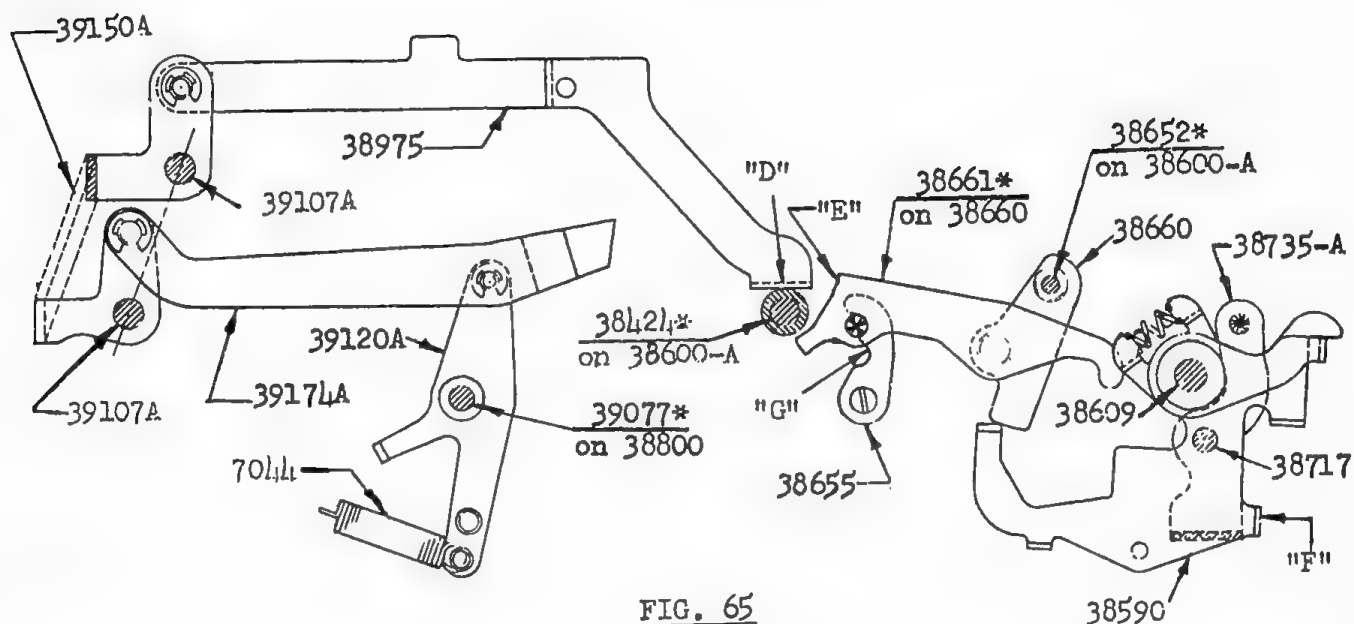

FIG. 65
B. (Fig. 65). The front end of 39174A is connected to the left
D. (Fig. 65). If the Front Dial Clear Key is depressed during X- or Equals Key operation it will only release the Front Dial Clear Key, (if it is latched). The termination Lever-38590 will not be released because the Interponent is then held in the lower notch "G" of Detent-38655, so that ear